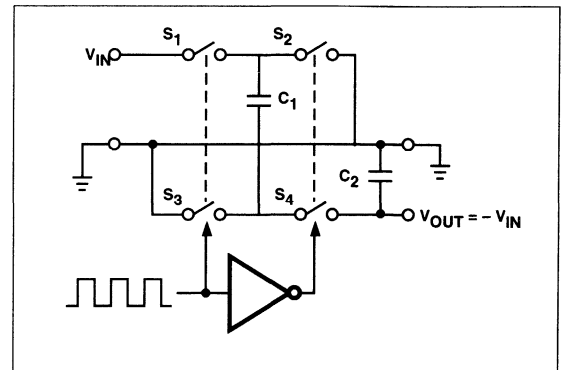
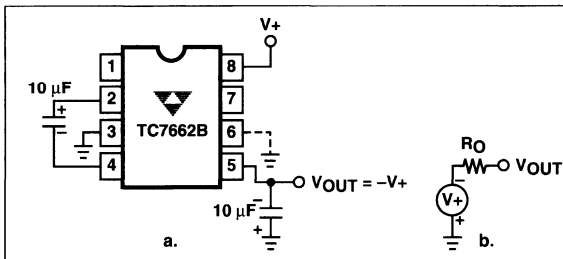
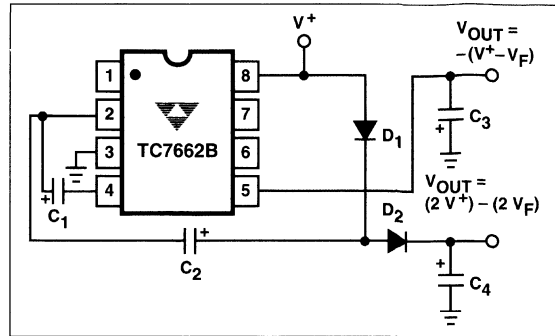

Figure 2. Idealized Negative Voltage Capacitor
Figure 3. Simple Negative Converter and its Output Equivalent
Figure 10. Combined Negative Converter and Positive Doubler
The TC7662B contains all the necessary circuitry to complete a negative voltage converter, with the exception of two external capacitors which may be inexpensive 1 μ F polarized electrolytic types. The mode of operation of the device may be best understood by considering Figure 2, which shows an idealized negative voltage converter. Capacitor C_1 is charged to a voltage V_+ for the half cycle when switches S_1 and S_3 are closed. (Note: Switches S_2 and S_4 are open during this half cycle.) During the second half cycle of operation, switches S_2 and S_4 are closed, with S_1 and S_3 open, thereby shifting capacitor C_1 negatively by V_+ volts. Charge is then transferred from C_1 to C_2 such that the voltage on C_2 is exactly V_+ , assuming ideal switches and no load on C_2 . The TC7662B approaches this ideal situation more closely than existing non-mechanical circuits.
In the TC7662B, the four switches of Figure 2 are MOS power switches; S_1 is a P-channel device and S_2 , S_3 and S_4 are N-channel devices. The main difficulty with this approach is that in integrating the switches, the substrates of S_3 and S_4 must always remain reverse biased with respect to their sources, but not so much as to degrade their "ON" resistances. In addition, at circuit start up, and under output short circuit conditions ($V_{OUT} = V_+$), the output voltage must be sensed and the substrate bias adjusted accordingly. Failure to accomplish this would result in high power losses and probable device latchup.
where V_1 and V_2 are the voltages on C_1 during the pump and transfer cycles. If the impedances of C_1 and C_2 are relatively high at the pump frequency (refer to Figure 2) compared to the value of R_L , there will be a substantial difference in voltages V_1 and V_2 . Therefore, it is desirable not only to make C_2 as large as possible to eliminate output voltage ripple, but also to employ a correspondingly large value for C_1 in order to achieve maximum efficiency of operation.
The majority of applications will undoubtedly utilize the TC7662B for generation of negative supply voltages. Figure 3 shows typical connections to provide a negative supply where a positive supply of +1.5V to +15V is available. Keep in mind that pin 6 (LV) is tied to the supply negative (GND) for supply voltages below 3.5 volts.
The output characteristics of the circuit in Figure 3 can be approximated by an ideal voltage source in series with a resistance as shown in Figure 3b. The voltage source has a value of $-V+$. The output impedance (R_O) is a function of the ON resistance of the internal MOS switches (shown in Figure 2), the switching frequency, the value of C_1 and C_2 , and the ESR (equivalent series resistance) of C_1 and C_2 . A good first order approximation for R_O is:
Figure 10 combines the functions shown in Figures 3 and 9 to provide negative voltage conversion and positive voltage doubling simultaneously. This approach would be, for example, suitable for generating +9V and -5V from an existing +5V supply. In this instance, capacitors C_1 and C_3 perform the pump and reservoir functions, respectively, for the generation of the negative voltage, while capacitors C_2 and C_4 are pump and reservoir, respectively, for the doubled positive voltage. There is a penalty in this configuration which combines both functions, however, in that the source impedances of the generated supplies will be somewhat higher due to the finite impedance of the common charge pump driver at pin 2 of the device.